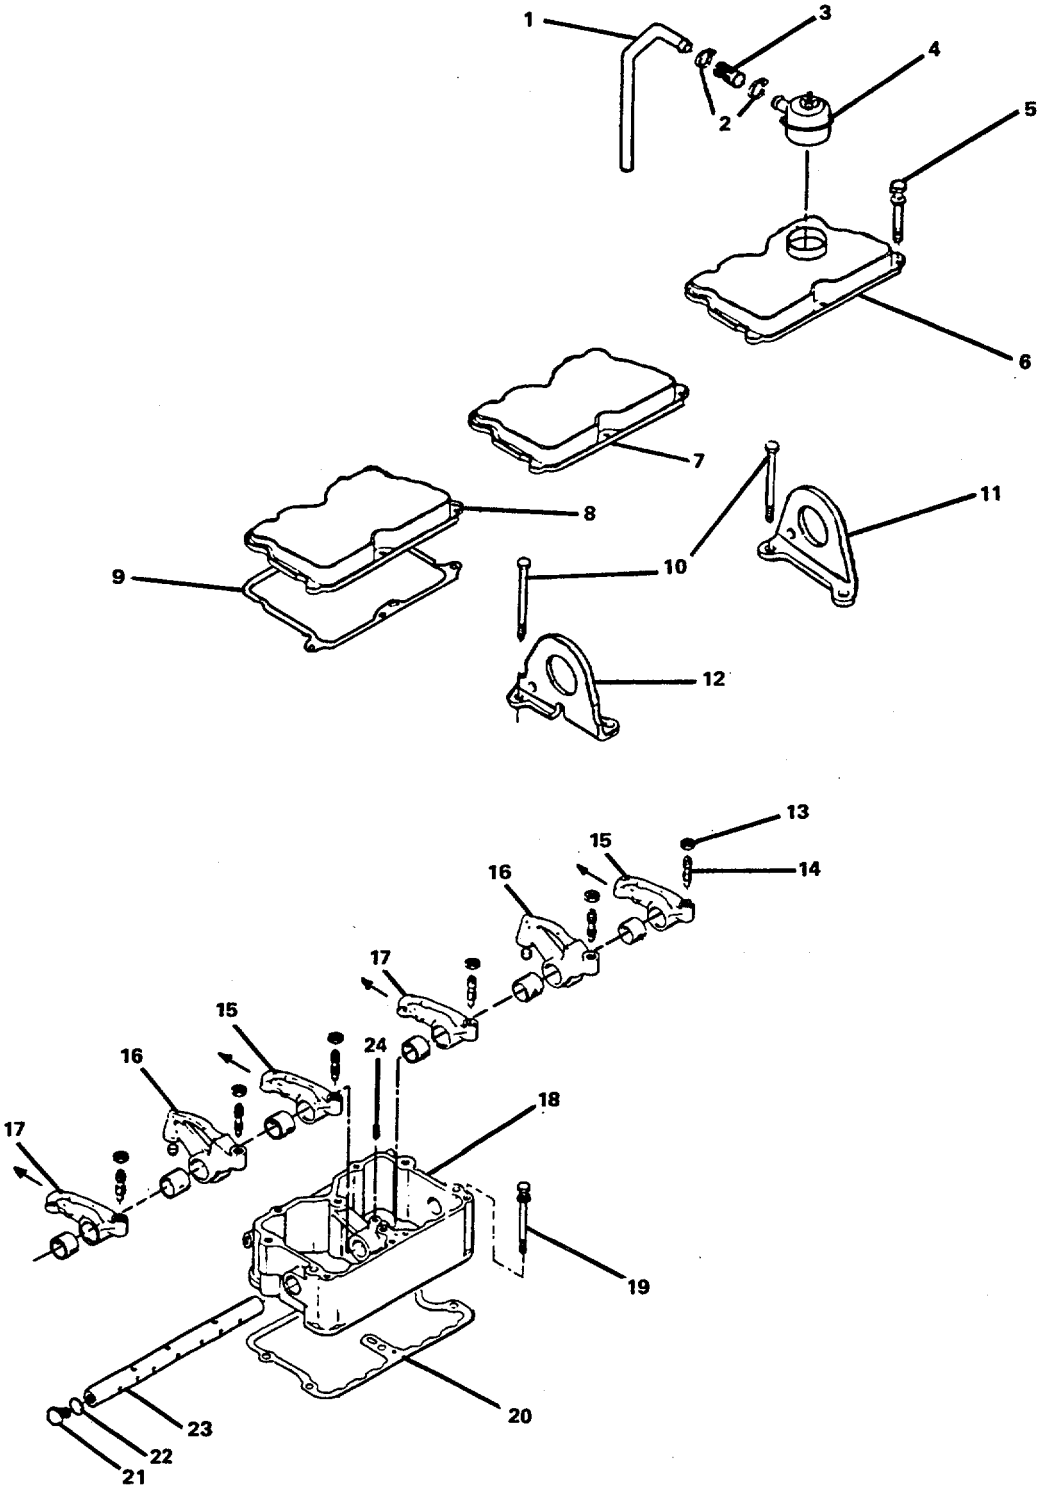
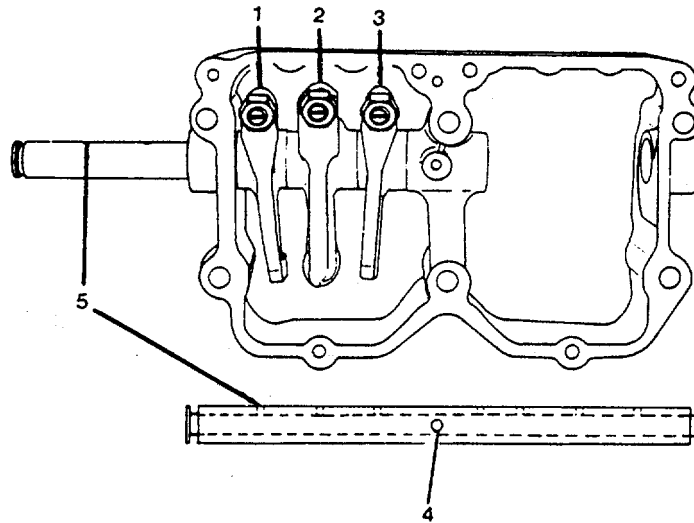
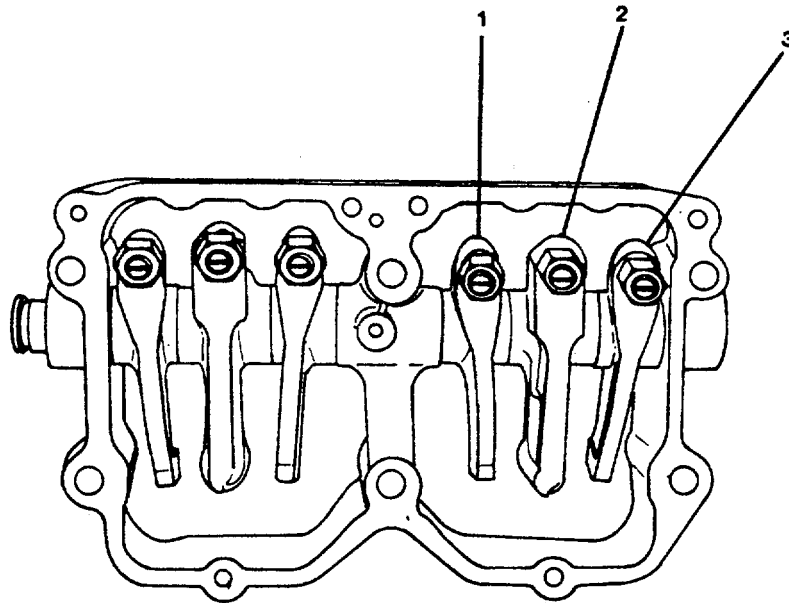

FIGURE 2-23. Rocker Lever Housing Group.
FIGURE 2-24. Set Screw and Oil Passage Holes.
FIGURE 2-25. *Installing the Arms and Levers on Shaft.*
- (1) Loosen the hose clamps (2, Figure 2-23) on nonmetallic hose (3) and remove bent metallic tube (1) and hose (3).
- (2) Pull the breather (4) from the engine poppet valve rocker arm cover (6).
- b. Remove five assembled washer screws (5) from engine poppet valve rocker arm covers (6, 7, 8).
The setscrew hole (4, Figure 2-24) must be to the top and the seven oil passage holes (5) toward the flat side of the housing for correct assembly.
- c. Install, in their original location, the exhaust rocker arm (1), injector rocker lever (2), and intake rocker arm (3) as the shaft is pushed through the rocker lever housing (18, Figure 2-23).
- d. Install, in their original position, the intake rocker arm (1, Figure 2-25), injector rocker lever (2), and exhaust rocker arm (3) as the shaft continues through the rocker lever housing (18, Figure 2-23).
- e. Install the preformed packing (22) as follows:
- (1) Push the straight shaft (23) until 0.50 inch (12.7 mm) extends from the rocker lever housing (18).
- (2) Lubricate the packing (22) with vegetable oil.
- (3) Install the lubricated packing.
- (4) Push the straight shaft (23) until the other end extends 0.50 inch (12.7 mm) from the rocker lever housing (18).
- (5) Install the lubricated packing.
- f. Align the straight shaft (23) and the rocker lever housing setscrew holes. See (4) and (5) Figure 2-24.
- g. Install the setscrew (24, Figure 2-23).
- c. Install each rocker lever housing (18, Figure 2-23).
- (1) Install the ball end of the setscrews (14, Figure 2-23) in the push rod sockets.
- (3) Install the assembled washer screws (19, Figure 2-23).
- f. Repeat steps k through m for the two remaining rocker lever housings (18, Figure 2-23).